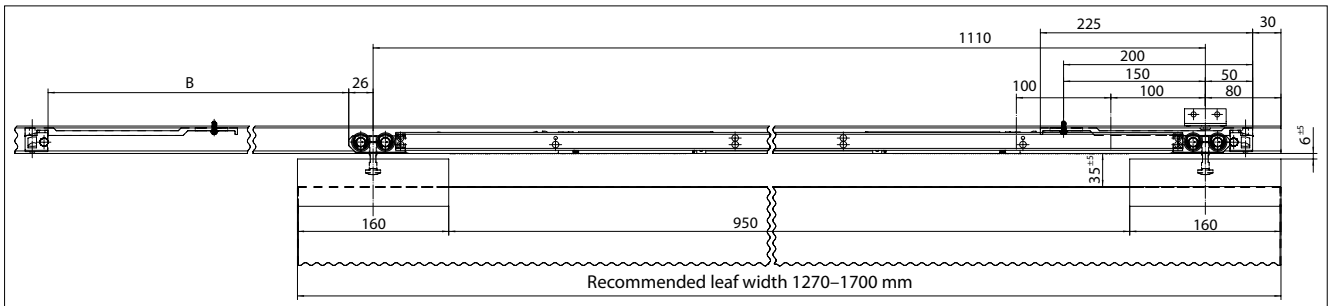

Fig. 13-1
e.g. with glass leaf, long design (2-sides), damping in both directions, see Fig. 13-1